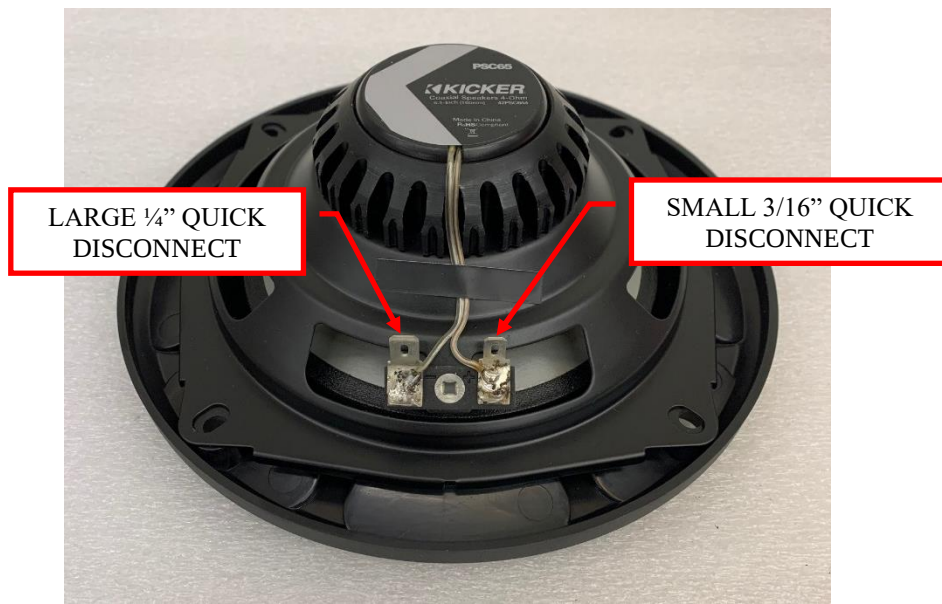

Figure 8: Speaker wire orientation.
9. Re-install the speakers. Be sure to place the large quick disconnect on the 1/4" speaker tab and the small quick disconnect on the 3/16" speaker tab. Re-use the Philips head screws you removed previously. Do not over torque the speaker screws with an impact driver (hand tighten only). See Figure 8.